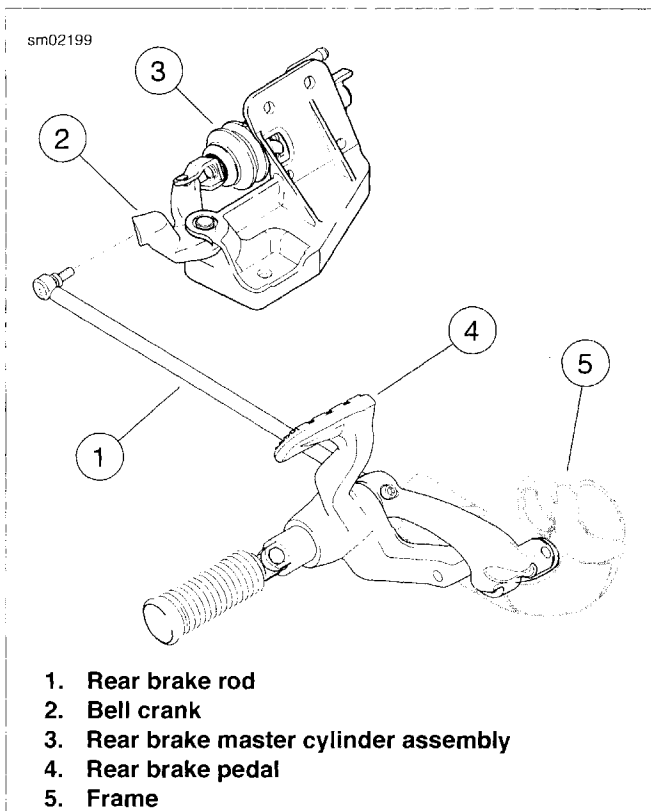

Figure 4-72. Rear Brake Linkage
2. See Figure 4-72. Remove rear brake rod (1) at bell crank (2).
2. See Figure 4-72. Apply two drops of LOCTITE 243 (Part No. 99642-97) to rear brake rod ball stud screw. Attach rear brake rod (1) to bell crank (2). Tighten screw to 120-180 **in-lbs** (13.6-20.4 Nm).